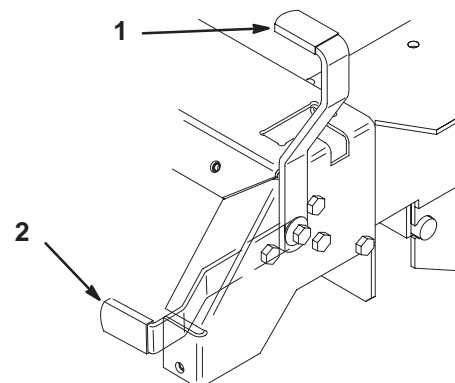

Figure 10
2. Pull back and up on the parking brake lever to set the parking brake (Fig. 10). The parking brake lever should stay firmly in the engaged position.
1. Push forward and down on the parking brake lever to release the parking brake (Fig. 10). The parking brake is disengaged and the lever rests against the brake stop.